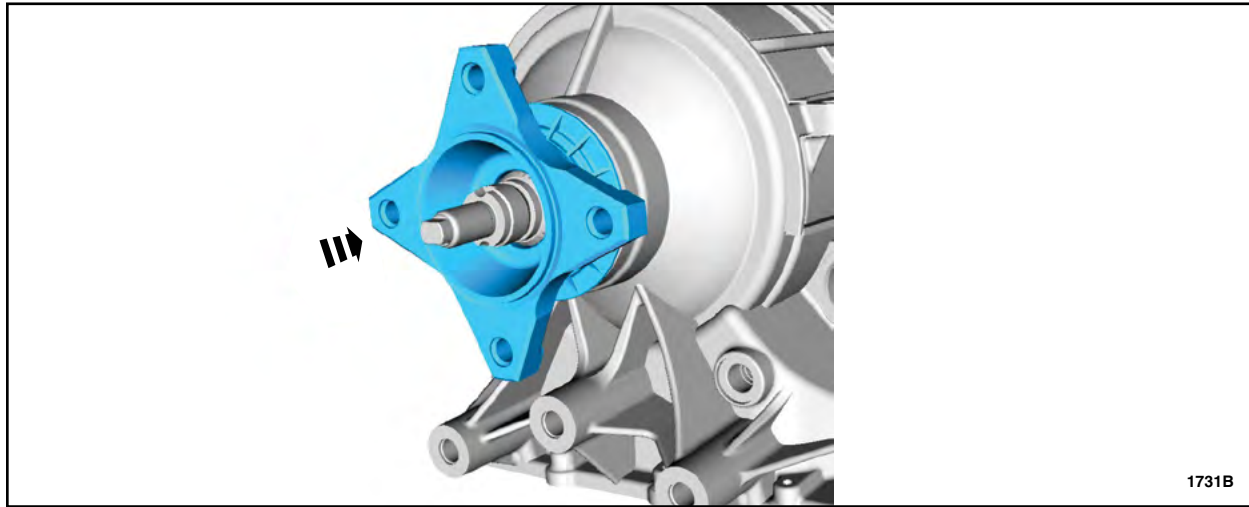

FIGURE 8
3. Using a 1/2" drive, 34mm, 12-point deep socket, install a *new* 4-bolt transmission output shaft flange and retaining nut. (See Figures 8 and 9):